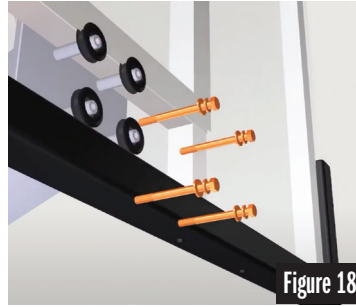

Figure 18
STEP 10: Remove hardware from the rim connection tubes on the Extension Arm. See Figure 18.